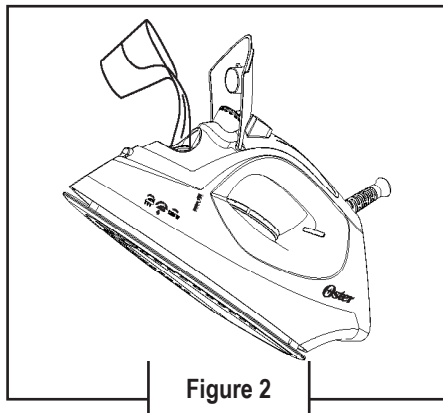

Figure 2
3. Set iron in the position indicated below (figure 2) and fill it with